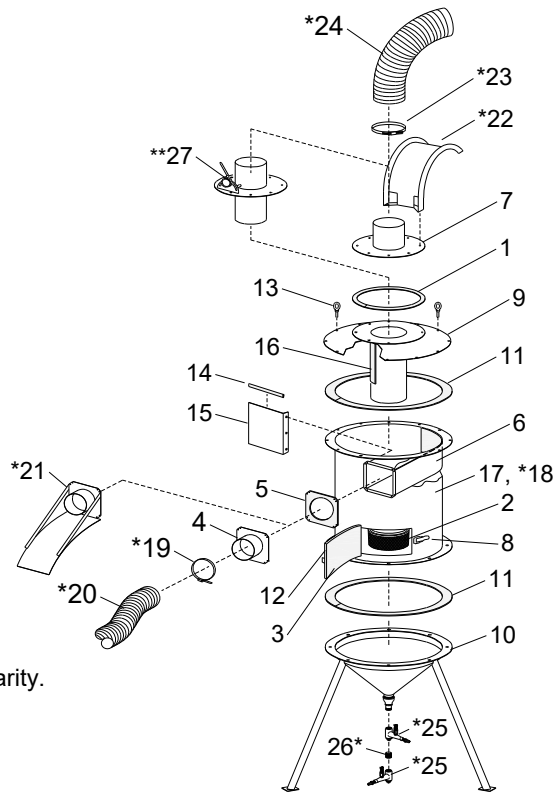

Figure 41
9.11 900 CFM Modular Reclaimer Replacement Parts – Figure 41
Refer to Figure 41 for 900 cfm reclaimer replacement parts.